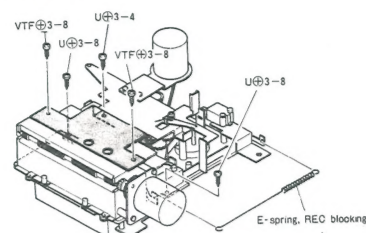

Fig. 10
- 3) Remove the E-spring (record prevention mechanism). (See figure 10)